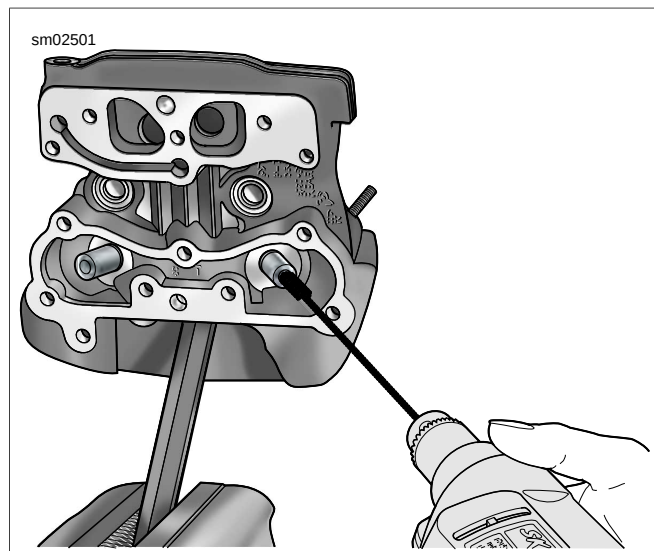

Figure 3-50. Honing Valve Guide Bore
8. See Figure 3-50. Hone bore to finished size.